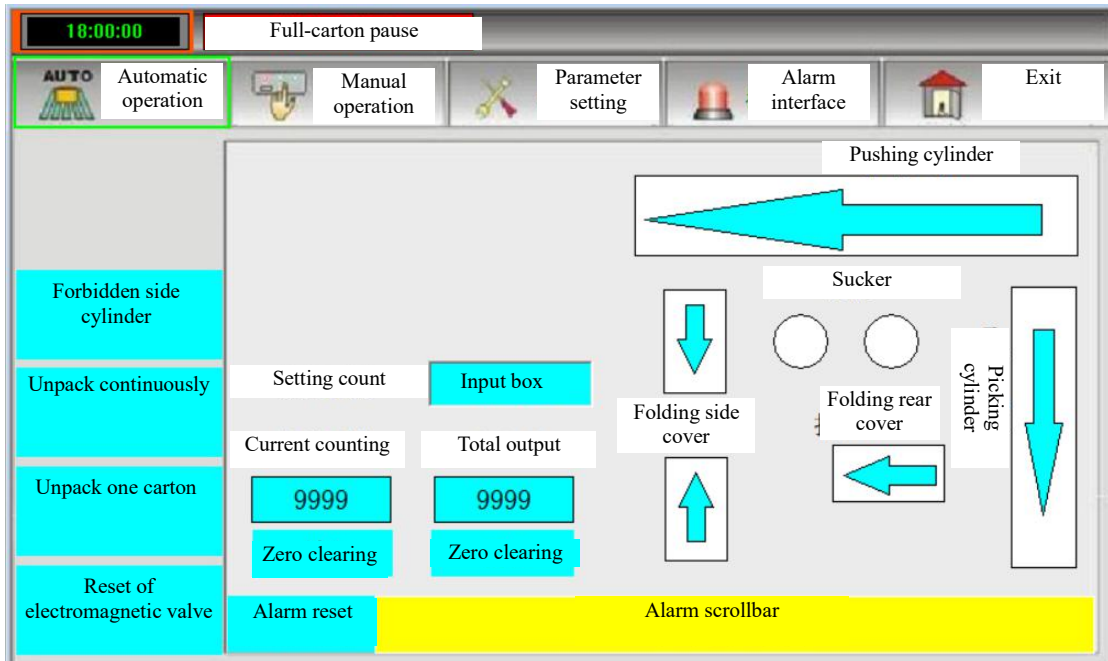

Figure 11
4) The main screen is as shown in Figure 11: